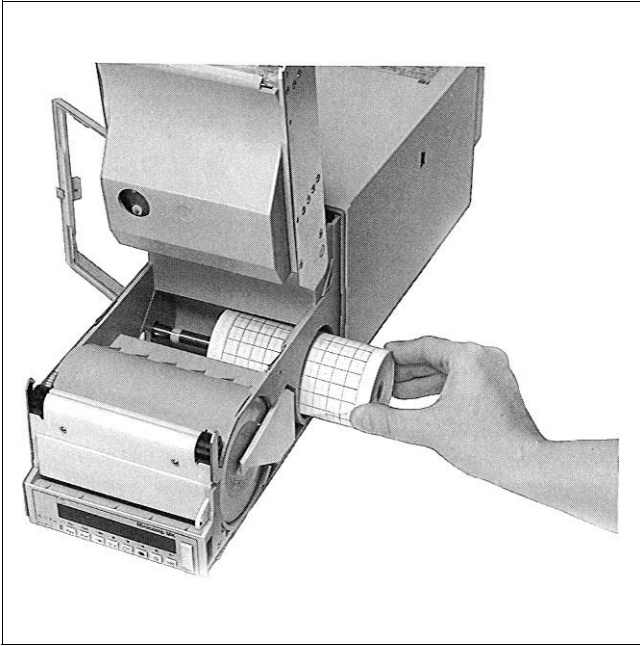

Fig. 10
5. Insert roll chart by the side (see Fig. 10).
10. Replace new roll chart (see Fig. 10).